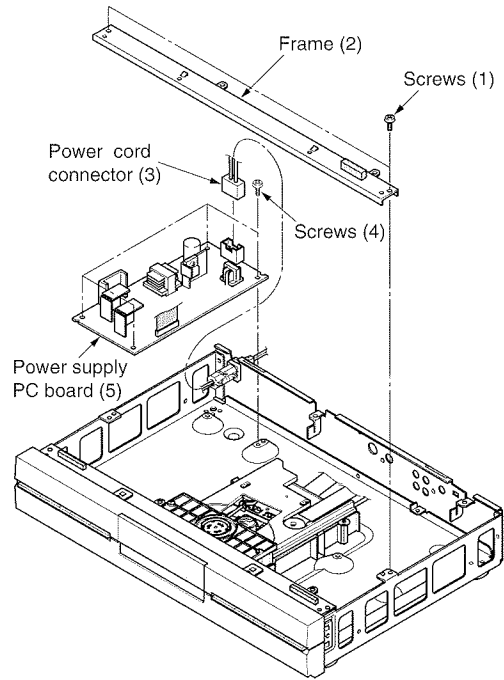

Fig. 2-10
1. Remove the upper shield plate, main PC board and lower shield plate. (Refer to items 1-1-2 and 1-2-1.)
2. Remove the caution label. (Refer to item 1-2-1.)
3. Remove two screws (1), and remove the frame (2). (Refer to Fig. 2-10.)
4. Remove four screws (4), and disconnect the power cord connector (3). Then, remove the power supply PC board (5).